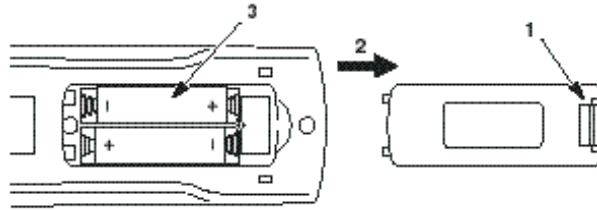

Figure 5-1. Replacing Batteries
1. Press the **locking tab (1)** to release door. Figure 5-1)
4. Install new **batteries (3)**. Make sure the polarity (+/-) on each battery matches the decal.